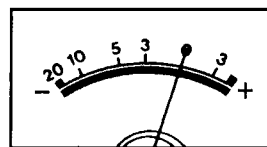

Figure E51
- Adjust VR41014 so that needle of Audio level CH2 Meter reaches " 0 ± 0.5 " as shown in Figure E51.